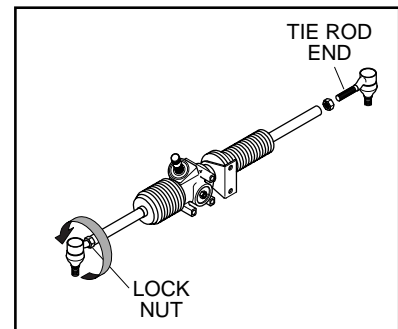

Figure 4
6. Loosen the tie rod end lock nuts (Figure 4).